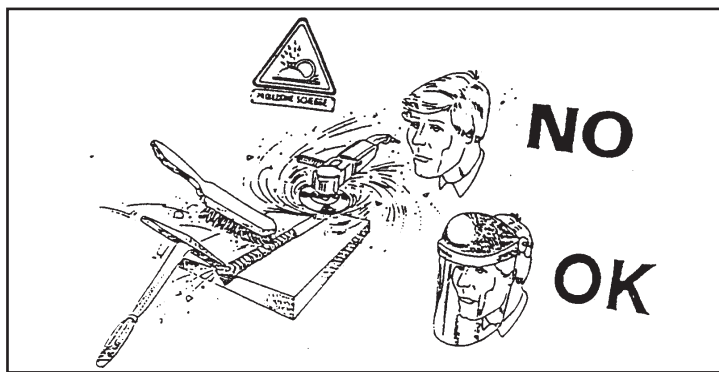

Figure 5
- During the grinding, brushing and hammering operations involving the welded pieces, always wear protection goggles with transparent lens to prevent projected chips and any other foreign particles from hurting your eyes (Fig. 5).